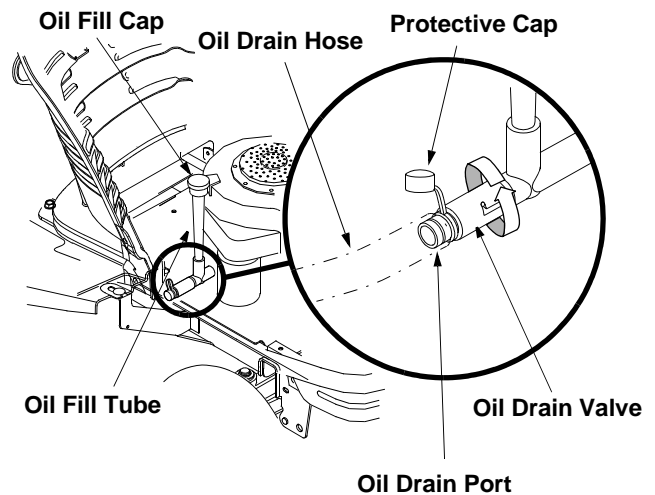

Figure 11
1. Unscrew oil fill cap and remove dipstick from the oil fill tube. See Figure 11.
2. Pop open the protective cap on the end of the oil drain valve to expose the oil drain port. See Figure 11.
4. Push the oil drain valve in slightly, then rotate counterclockwise and pull outward to begin draining oil. See Figure 11.